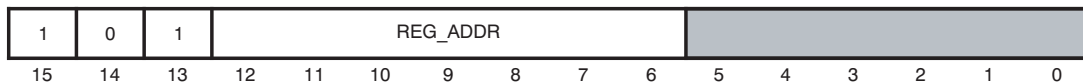
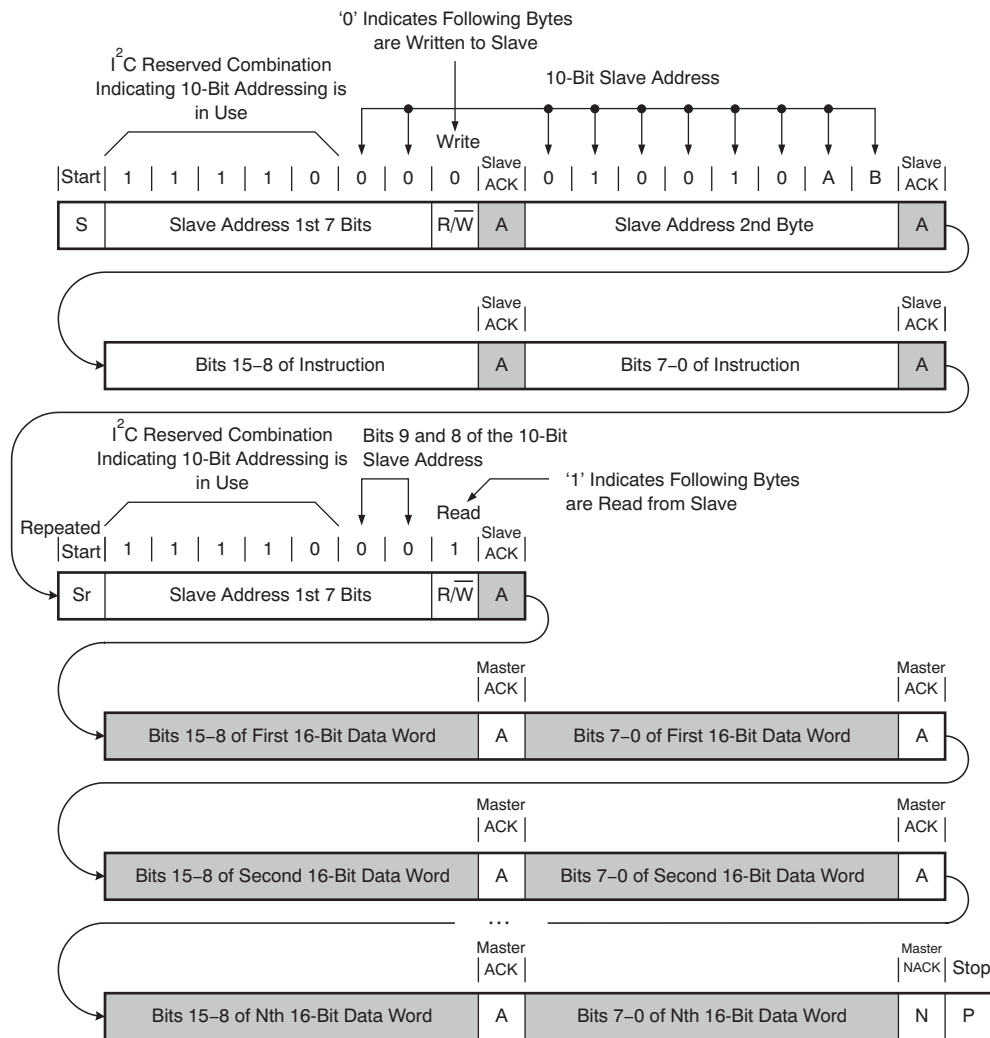

Figure 10. Register Read Instruction Format
Figure 12. Example I2C Read Operation
Read operations require a start condition followed by two bytes describing both a 10-bit address format and the AFE8220 10-bit slave address. The next two bytes must contain the 16-bit instruction word format, as illustrated in Figure 10. A repeated start followed by the first byte of the slave address is then required to create a combined transaction. Note that the R/W bit is set to 1 (read), indicating that subsequent bytes are to be read from the slave. The AFE8220 presents addressed 16-bit data words in 8-bit pairs until a NACK (N) is provided by the master. After the final pair of read data bytes, an I2C stop condition must be provided to terminate the transaction. Figure 12 illustrates a block read transfer of *N* 16-bit data words. Gray areas denote slave-driven SDA cycles; white areas are master-driven.